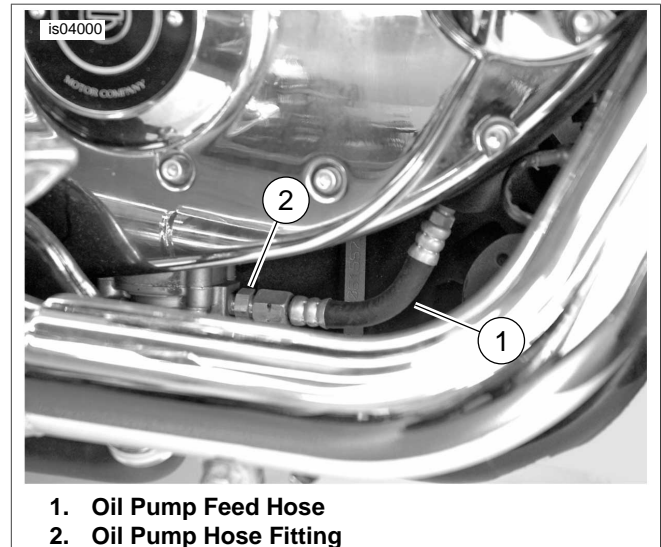

Figure 1. Oil Pump Feed Hose
5. See Figure 1. Remove oil feed hose (1) from oil pump.
6. Remove and discard the oil pump hose fitting (2) from the oil pump.